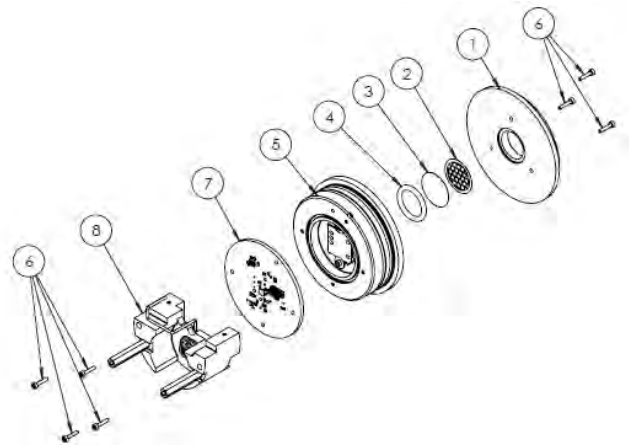

Figure 58. Filter Replacement
2. Using the Allen Tool [Part No. 11-0000] remove the three retaining screws from the filter housing assembly. (See **Figure 58**)